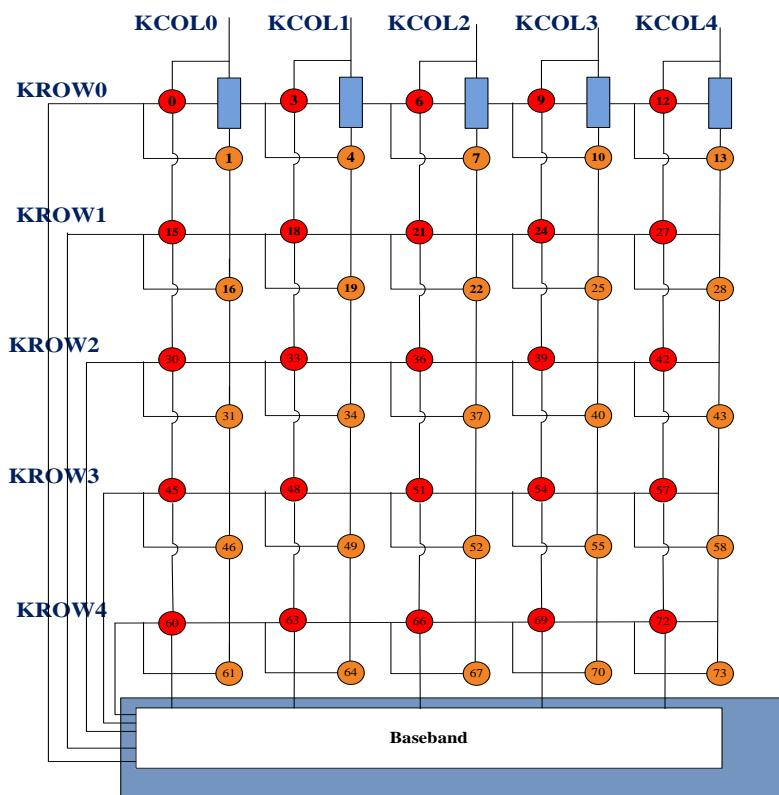
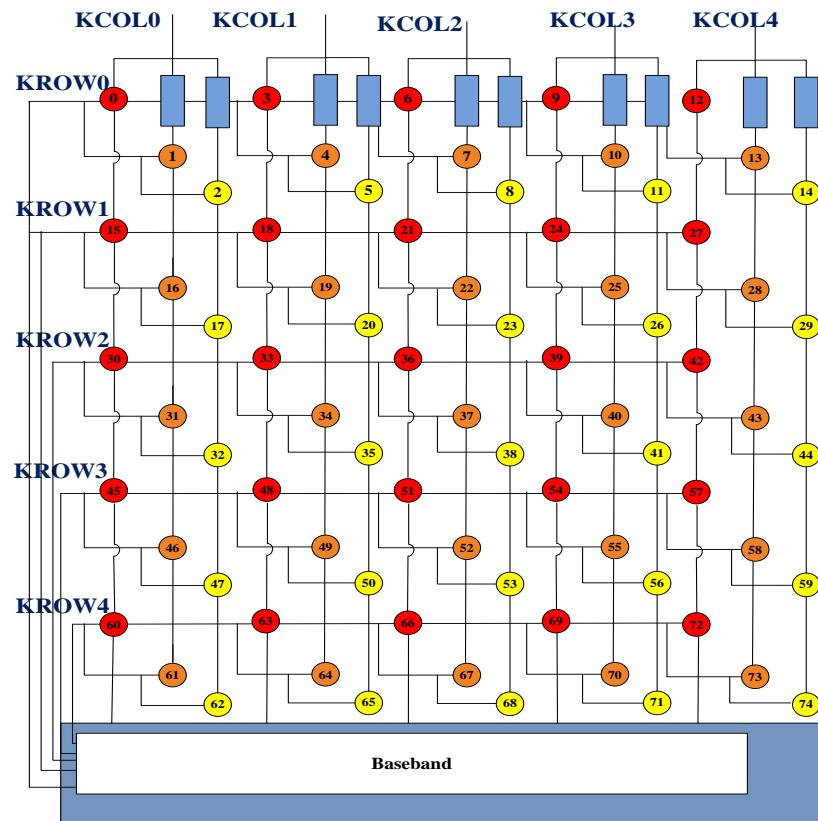

Figure 24. 5x5 double keypad matrix (50 keys)
Figure 25. 5x5 triple keypad matrix (75 keys)
The 5*5 keypad can be divided into two parts: 1) The keypad interface including 5 columns and 5 rows (see Figure 24 and Figure 25); 2) The key detection block providing key pressed, key released and de-bounce mechanisms.
The 5*5 double keypad (Figure 24) supports a $5 \times 5 \times 2 = 50$ keys matrix. The 50 keys are divided into 25 sub groups and each group consists of 2 keys and a off-chip resistor. 5*5 double keypad has another limitation, which is it cannot detect two keys pressed simultaneously when the two keys are in one group, i.e. the 5*5 keypad cannot detect key0 and key1 pressed simultaneously or key15 and key16 pressed simultaneously.
The 5*5 triple keypad (Figure 25) supports a $5 \times 5 \times 3 = 75$ keys matrix. The 75 keys are divided into 25 sub groups and each group consists of 3 keys and two off-chip resistors. 5*5 triple keypad has another limitation, which is it cannot detect three keys pressed simultaneously when the three keys are in one group, i.e. 5*5 keypad cannot detect key0, key1 and key2 pressed simultaneously or key15, key16 and key17 pressed simultaneously.